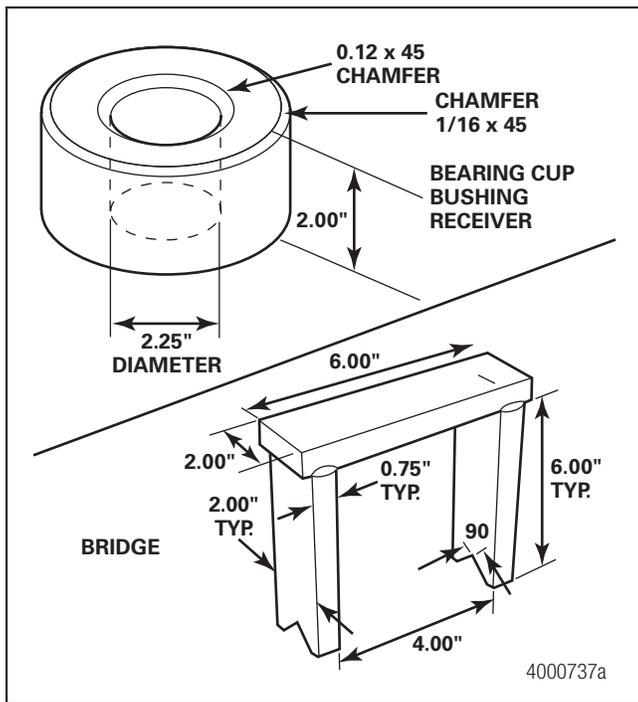

**Figure 10.5**
- Use a press, bridge and bearing cup bushing receiver as shown in Figure 10.5. The bridge and bearing cup bushing receiver are detailed in Figure 10.6.
- Press down until the first round bushing is loose. Figure 10.5.